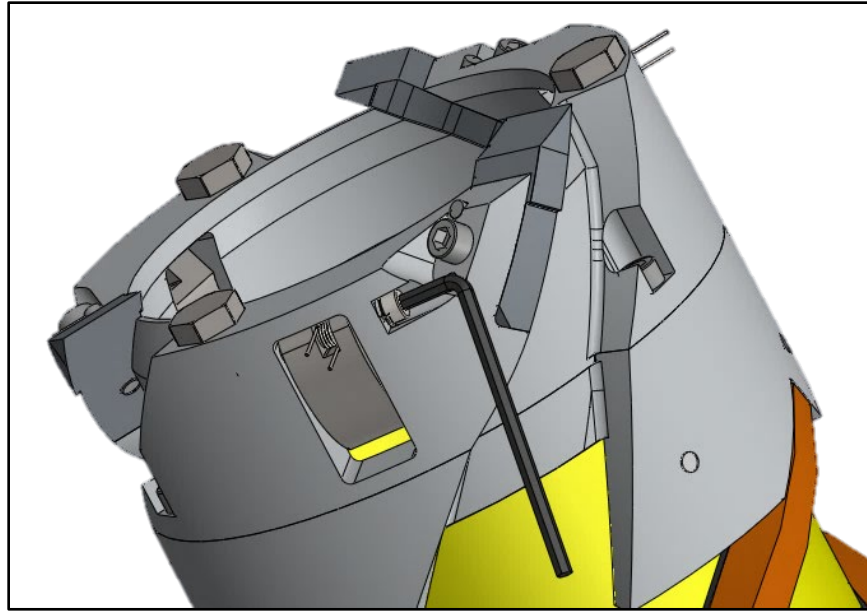

Figure 8: Removing the Core Dogs
7.3.2 Installing core dogs (Figure 8):
2. Insert the core dog into the core dog window such that its concave surface is facing towards a theoretical core (Figure 8, left highlight) (Figure 8, center highlight). Then slide the screw part way into the core dog through the first leg.